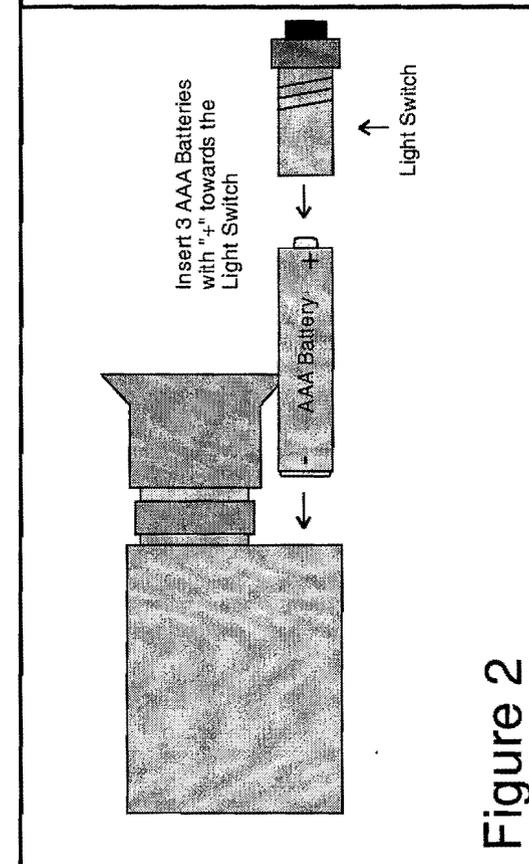

Figure 2
2. Your Fiber Microscope should come with the batteries already inserted. If not, you'll need to insert 3 AAA batteries. Unscrew and remove the "Light Switch". Insert the batteries with the "+" side up towards the Light Switch (see Figure 2). Replace the Light Switch and tighten.